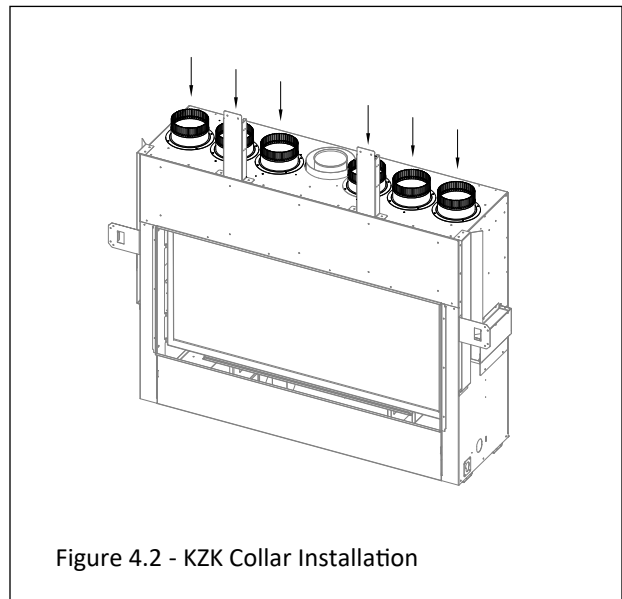

Figure 4.2 - KZK Collar Installation
2. Install the KZK collars that were provided with KZK-062 as shown in Figure 4.2. Reuse the sheet metal screws from the previous step.